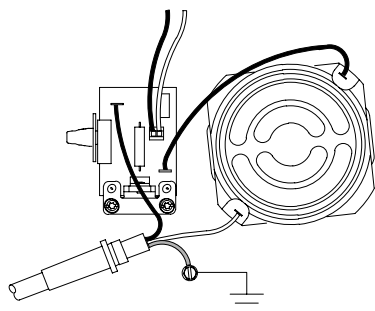

Fig. 2
6. Remove both motor leads and pressure control switch connections (Fig. 2). Remove gray shroud (S) from motor (T) and save.
7. Remove and save pressure control (P).
8. Remove and save 2 screws (U) holding motor (T) to pump housing (M). Remove and save motor.
9. Remove 4 screws (E) holding cover (C) to pump housing (M). Separate cover and pump housing.
10. Discard pump housing (M) with pump assembly, combination gear, large gear and connecting rod.